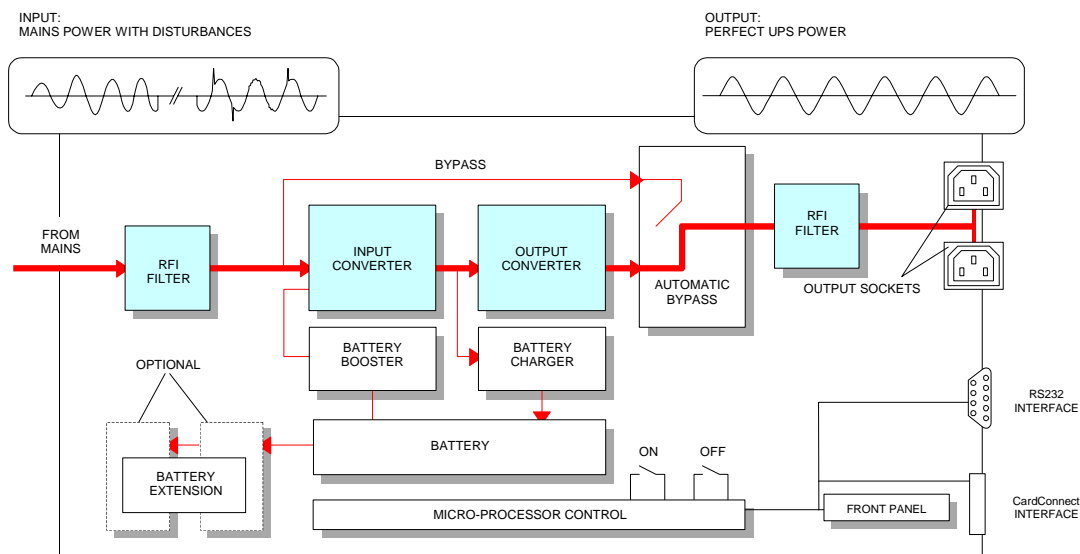

Figure 1 Block diagram of the NetPro 19" 600-1500 UPS, mains present
The UPS stores electric energy in batteries housed in the unit. This allows the UPS to supply output power even when the incoming mains power is cut off completely. Energy is stored as Direct Current (DC), while input and output energy are Alternating Current (AC) in sine wave form. Therefore the UPS contains an input converter (AC to DC) and an output converter (DC to AC) (See fig.1).